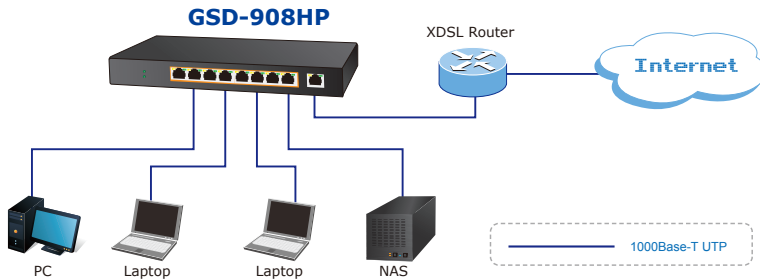

Figure 3-7: End Node or Switch Connection
Step 3: Use an Ethernet cable to connect one upstream network devices (such as another switch or router) to the uplink port on the switch, as shown in Figure 3-7.